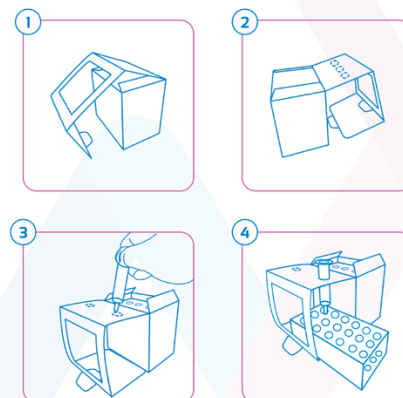

Figure 1. Graphic instructions to use column box as well as rack, avoiding to get a specific column rack in the laboratory and facilitating the protocol.
- Place the column in a rack and level it, make sure the column is vertical. Column box can be used as a rack, as shown in figure 1.